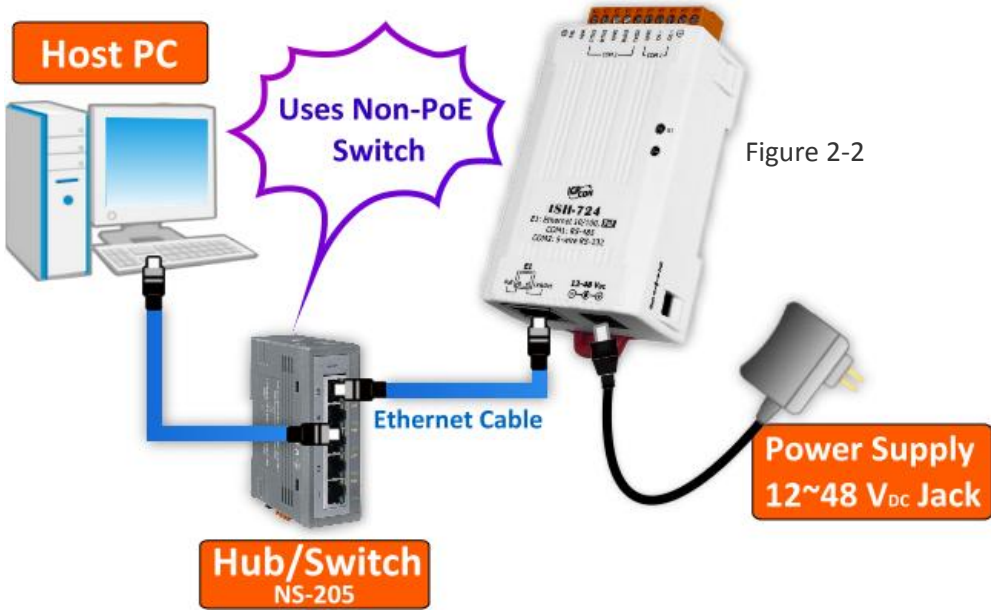

Figure 2-2
4. Connect both the tSH-700 and the Host computer to the same sub-network or the same Ethernet Switch, and then power on the tSH-700. Refer to **Figures 2-2 and 2-3** for illustrations of how to do this.